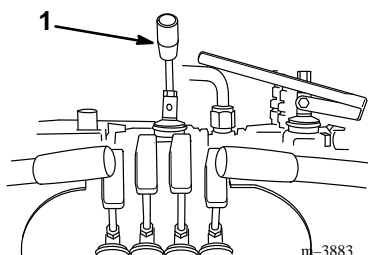

Figure 1
1. Thread the lever into the pump selector valve (Fig. 1).